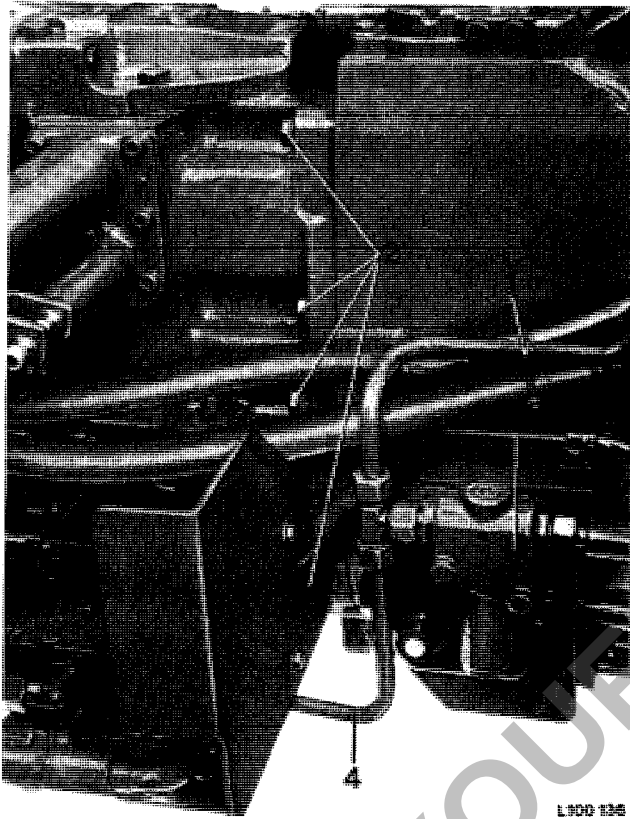

Fig. 11 — Separating between Clutch Housing and Transmission Case, Right-Hand Side
1. Disconnect ends of hydraulic pump pressure line 3 (fig. 11) and remove.